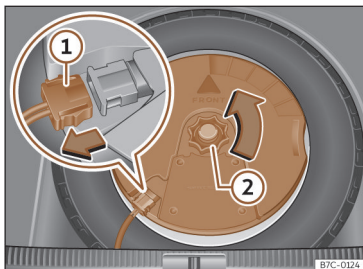

Fig. 234 In the boot: remove the subwoofer.
- Disconnect the subwoofer's speaker cable >>> Fig. 234 ①.
- Turn the securing wheel anti-clockwise >>> Fig. 234 ②.